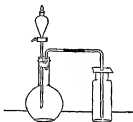

Fig 17
*c* [Hood] In a 250 c.c. flask (Fig 17), fitted with dropping-funnel (or substitute, 25 *b*) and L-shaped delivery tube, place about 30 g. of common salt. Use the shortest possible rubber connections here, and in 48 *b* (chlorine), as rubber tubing is destroyed by these gases. Admit concentrated sulphuric acid through the funnel. Collect the gas in three dry bottles
b [Hood] Fit up a 250 c.c. generating flask, as in Fig. 17, with a dropping-funnel (or a substitute, 25 b) and an L-shaped glass tube attached to the exit tube. Use the shortest possible rubber connections here. Test the apparatus to see that it is air-tight. Place in the flask about 20 g. of dry potassium permanganate, and fill the globe of the dropping-funnel with diluted, concentrated hydrochloric acid (1 Aq. 3 acid). [CAUTION! Do not use any other acid, by mistake.] Allow the delivery tube to dip to the bottom of a small beaker containing a little sodium hydroxide solution. Now admit the acid drop by drop, regulating the flow so that too rapid a stream of gas is not produced. The complete displacement of the air in the flask will be recognized by the color of the contents and the fact that the bubbles of pure chlorine are completely absorbed by the sodium hydroxide.
b Fit up an apparatus to generate a small amount of chlorine [Hood], using a side-neck test-tube instead of the flask in Fig 17 (p 51) If chlorine-water is available, it may be used instead of the gas